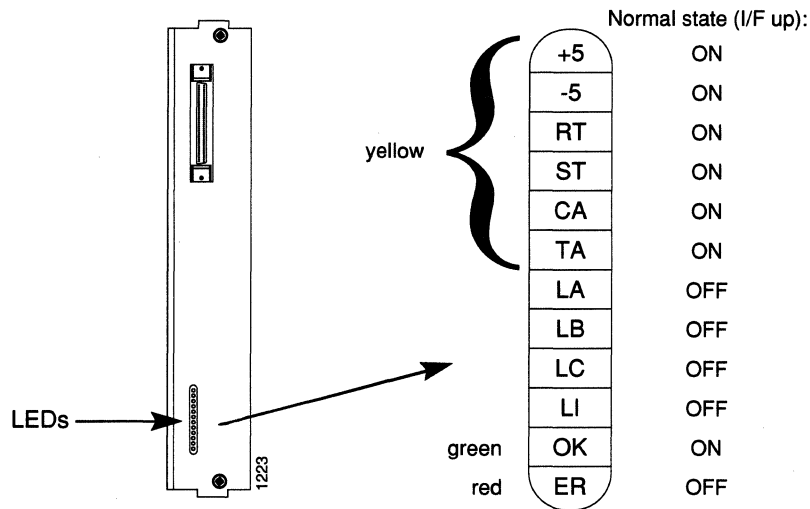

Figure 5-26 HSA Error Indicator
- Step 6:** Connect 50-pin Receive (R) cable from the applique to the Receive (R) connector on the card.
- Step 7:** Connect the 50-pin Transmit (T) cable from the applique to the Transmit (T) connector on the card.
- Step 11:** Check the LEDs on the applique. If any of the cables are crossed, the red ER indicator, shown in Figure 5-26, will light.